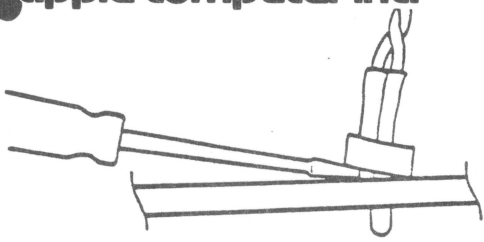

FIGURE 3
- a. Pry the small plastic retaining ring from around the LED holder with a screwdriver (Fig. 3). Slide the retaining ring up the wires and out of the way.